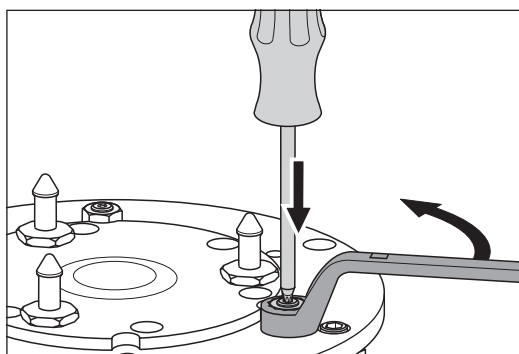

Fig. 40 Loosen the counter nut (wrench size 13 mm) for the holder to be adjusted.
- 3 Loosen the counter nut (wrench size 13 mm) on the top edge of the milling disc for the holder to be adjusted. Use the TORX screwdriver in the shaft of the thread to keep the adjustment screw in position (fig. 40).